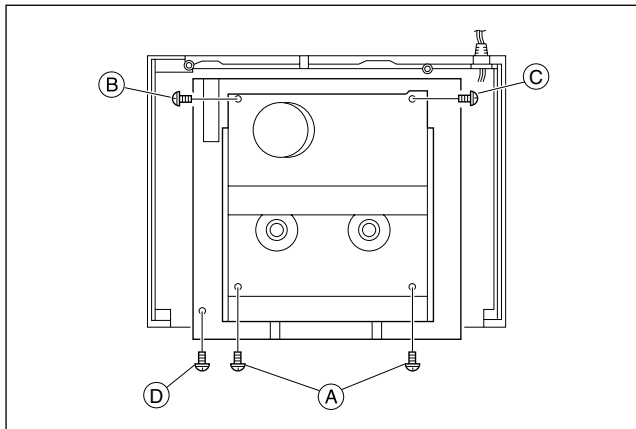

Fig. 1-4-1
- (1) Remove the Top cover, Bracket, Front panel assembly, and Mini ope (Mini front) board assembly. (See 1.3 DIS-ASSEMBLY/ASSEMBLY METHOD.)
- (2) Lower the cassette holder, and make the preparations required in order to remove the screws from the Mechanism assembly. (Refer to the "Procedures for Lowering the Cassette holder assembly" on page 1-2 of 1.3 DIS-ASSEMBLY/ASSEMBLY METHOD.)
- (3) Take out 2 screws (A), 1 screw (B), 1 screw (C) and 1 screw (D) as shown in Fig. 1-4-1.